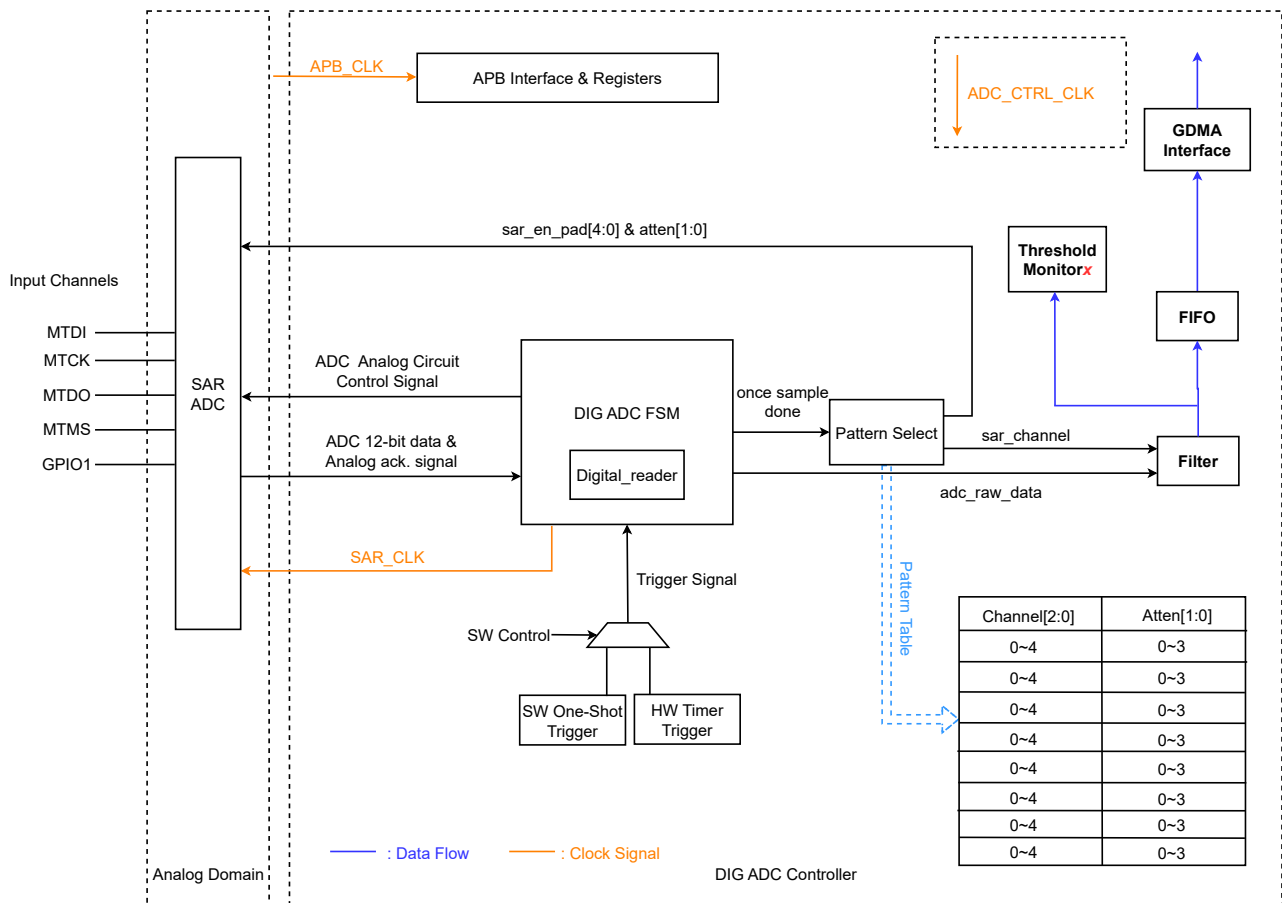

Figure 36-1. SAR ADC Architecture
As Figure 36-1 shows, the SAR ADC module contains the following major functional blocks:
- Transfers the conversion result to the filter. Then the threshold monitor transfers the filtered result to memory via GDMA (see Figure 36-1).